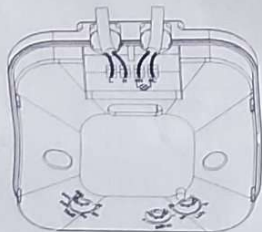

Fig. 3
7. Connect the power wire and the load wire to the connection terminal according to the electrical connection Fig 3. Do not exceed the max rated load.
8. Replace and secure base cover, Calibrate Figure 3. and replace the front cover.